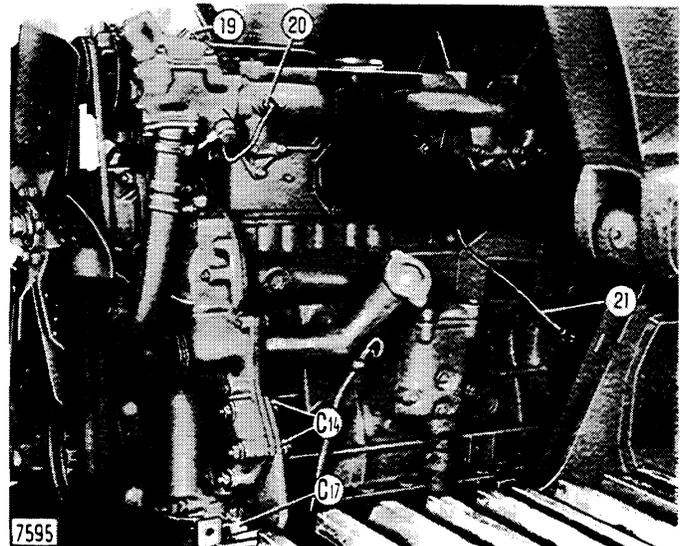

Fig. 6 - Left-hand Side View of the Engine in Position on the Machine
A. Attachment hydraulic oil (14, Fig. 293 and R, Fig. 396) - B. Standard AD 14-BD 14 master clutch hydraulic oil (P, Fig. 375) - C. Torque converter outlet (Pu, Figs. 158 and 424) - D. Gearbox clutch hydraulic oil (28, Figs. 147, 149, 369 and 370) - E. Brake steering clutch hydraulic oil (P, Fig. 199) - F. Steering clutch hydraulic oil (Pd and Ps, Fig. 199) - G. Engine lubricating oil (21, Fig. 6).